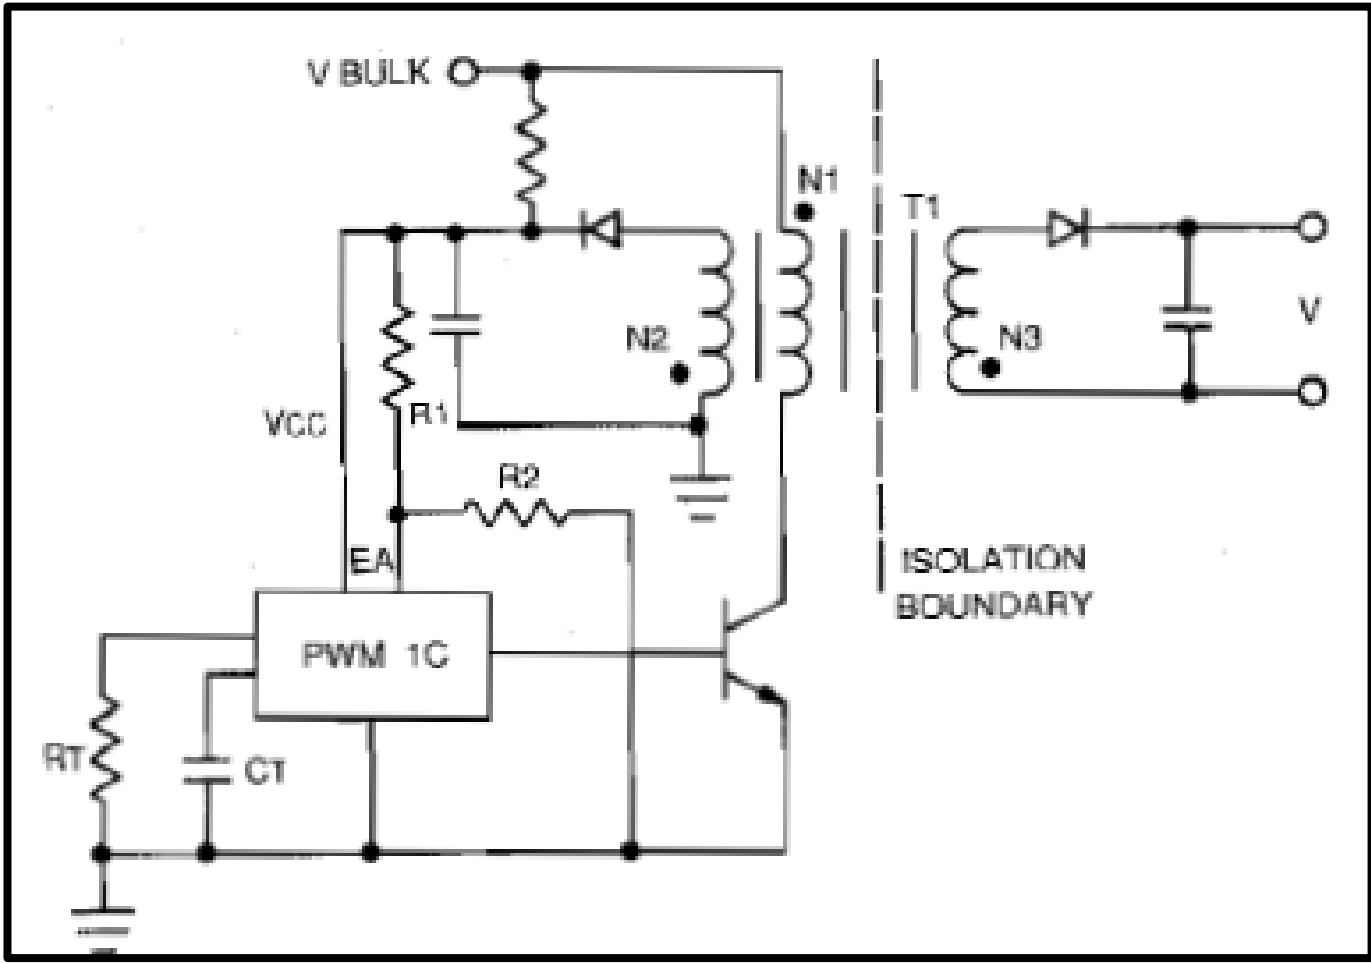

Figure 2. Flyback converter with auxiliary winding (N2) for primary-side sensing [1]. Secondary winding is denoted with N3.
- Output voltage at the auxiliary loop is sensed using a resistor divider and fed back to the PWM controller for regulation, as shown in Figure 2.